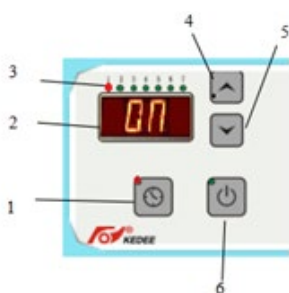
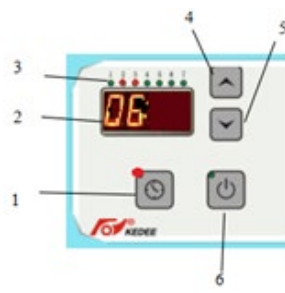
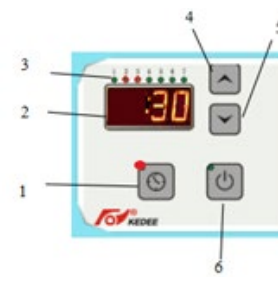

Fig. 5-1
Fig. 5-3
Fig. 5-4
- After selecting the weekdays and On/Off status for timer setting (Fig. 5-1 and 5-2), click ⌚ Key (1) to set up the hour (0-23) by using Keys (4) and (5) (Fig. 5-3); click Key (1) to save the hour setting and set the minute (00-59) by using Keys (4) and (5) (Fig. 5-4).